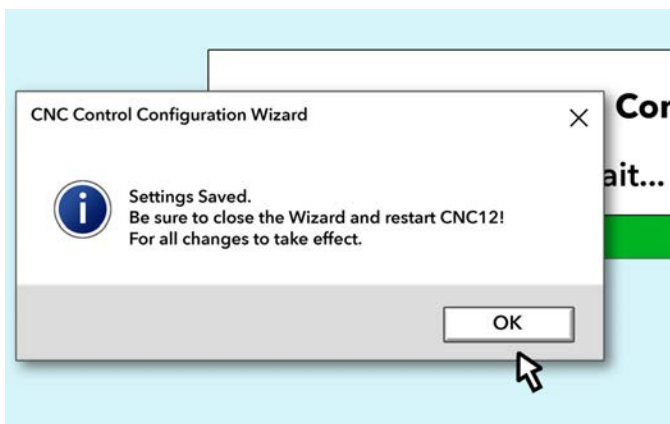

FIGURE 18
13. Settings Saved. Click OK (see Figure 18).